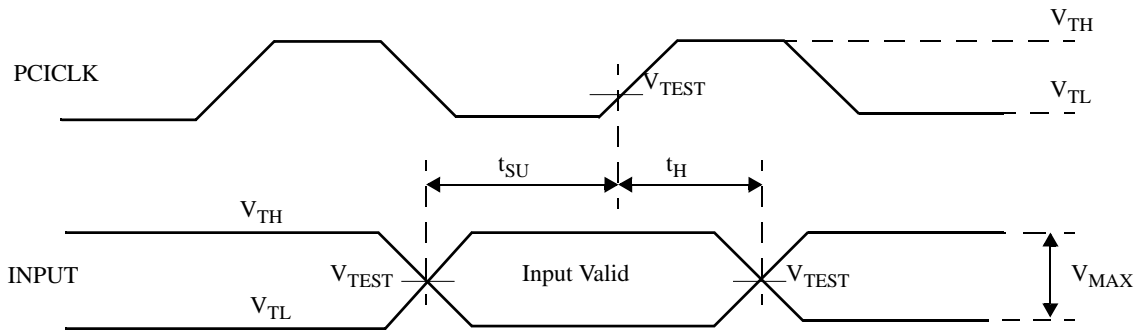

Figure 7-15 Input Timing Measurement Conditions
5. See the timing measurement conditions in Figure 7-15.